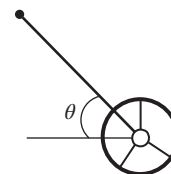

Figure P4.13 A wheel to measure skid marks.
- 4-13.** A state trooper investigating an accident pushes a wheel (shown in Fig. P4.13) to measure skid marks. If a trooper applies a force of 50 lb at an angle of $\theta = 37.5^\circ$, find the horizontal and vertical forces acting on the wheel.